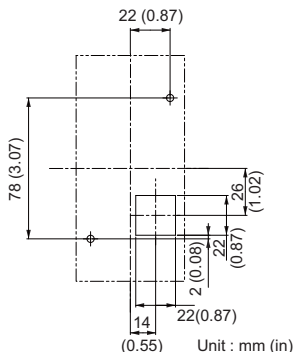

Figure 8 Panel Cut-out Dimensions (External/Face-mount Installation)
1. Cut an opening in the enclosure panel for the LCD Operator Option according to Figure 8.